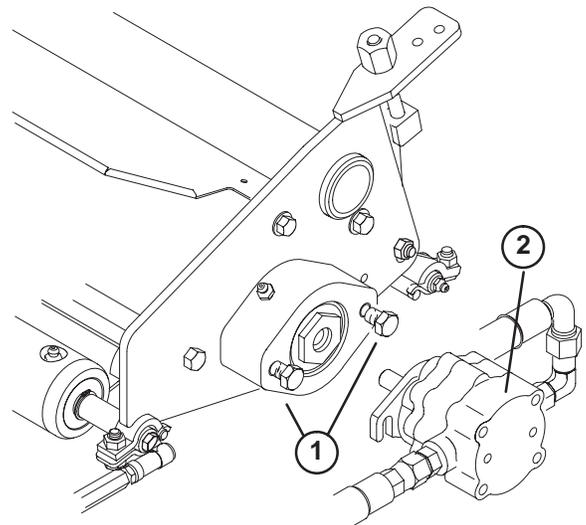

Figure 7
2. Adjust the reel drive motor mounting screws so approximately 1/2 in. of threads is exposed on each screw (Fig. 7).